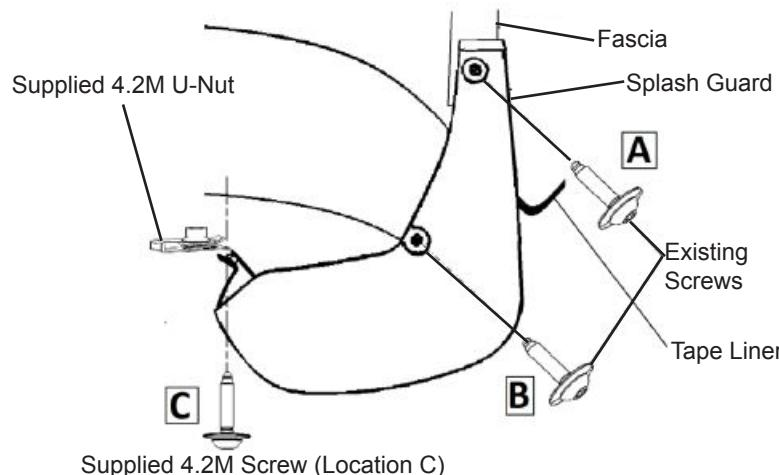

Figure 3
1. Remove existing screws, locations **A** and **B**. See **Figure 1** for left hand and **Figure 3** for right hand.